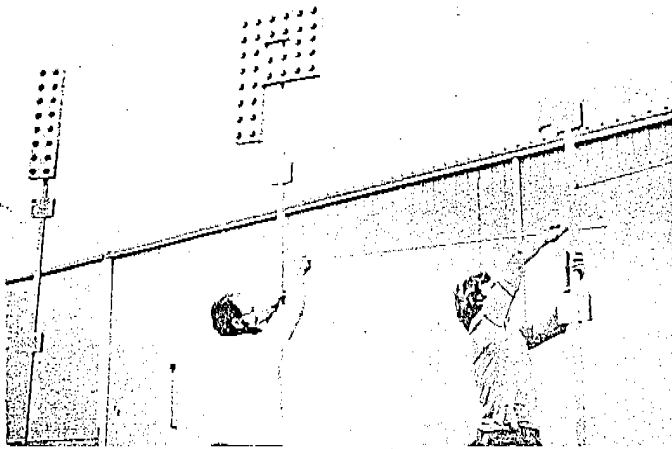

Fig. 40
- b. Fit the holes at the ends of a brace section over the pins on the support stands near the top panel brackets. An adjoining brace section will fit over the same pin. *Snap Key the Two Brace Ends in Place.* Continue in this manner until all support stands are linked with the brace sections. (Fig. 40)